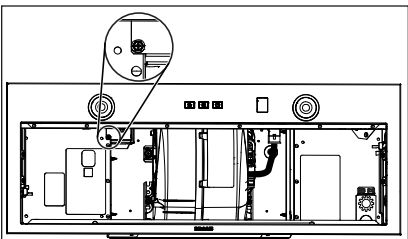

FIG. 17
5. Remove and set aside the screw (circled in FIG. 17) on the top, inside of the unit. NOTE: This screw might be present or not.